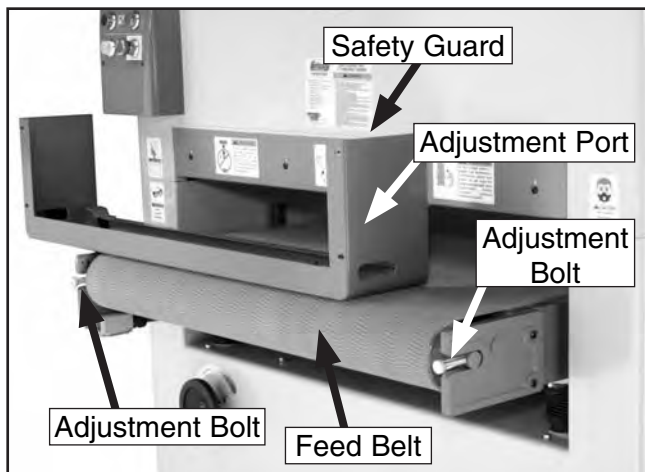

Figure 37. Feed belt tension adjustment bolts.
2. Find the adjustment ports in the safety guard (**Figure 37**) at the front end of the feed table.
3. Turn both left and right adjustment bolts (**Figure 37**) clockwise equally to increase tension.
2. If the feed belt is tracking to the **right** side of the table, turn the **right** adjustment bolt (**Figure 37**) clockwise.